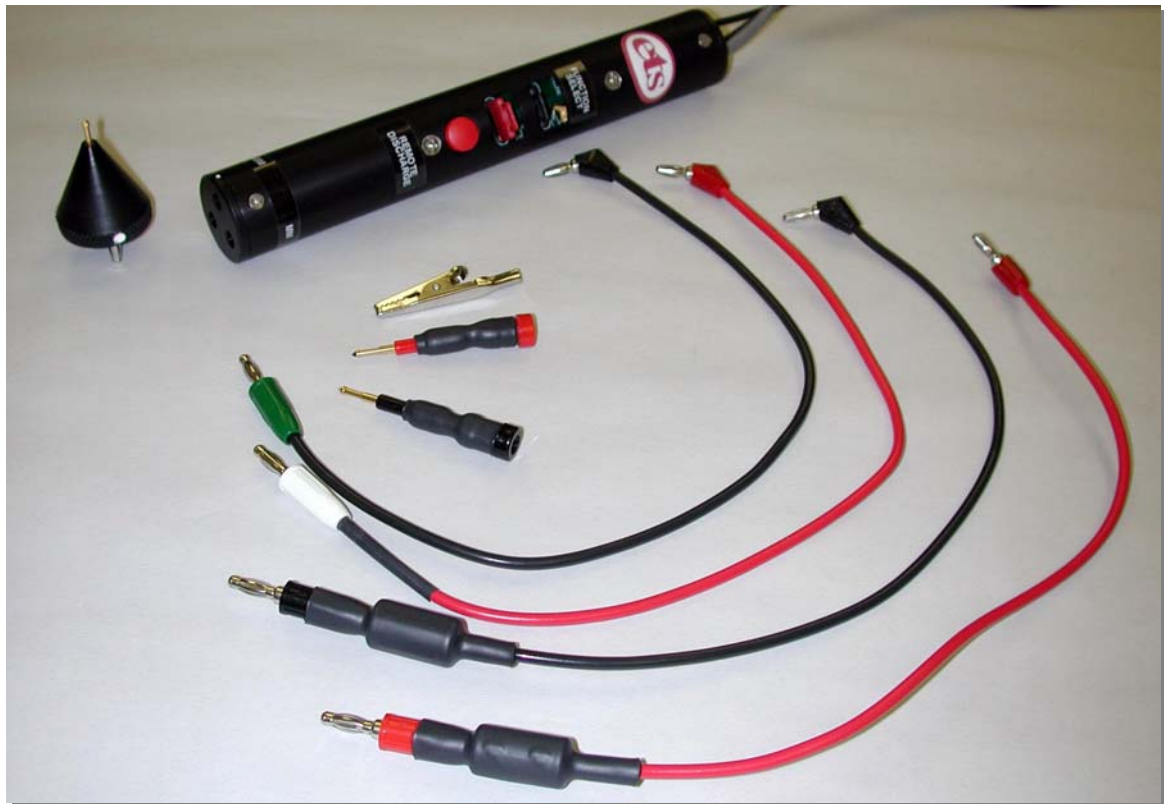

Figure 2.0-1: Model 9902 plus accessories
The Model 9902 is housed in an aluminum tube measuring 8.0" (203mm) long by 1.25" (32) diameter. It includes a removable discharge head with a replaceable spring-loaded pointed discharge tip and a set of 12" long discharge cables that are terminated with standard 0.161" (4mm) banana plugs plus a pair of spring-loaded adapters with pointed spring-loaded discharge tips for attachment to a pick and place or remote test set up. Red and Black 0.5" (6mm) jumpers are provided to select the HBM, MM and CDM functions. A spare set is also included. The Remote Probe is connected to the Model 910 via an 8.5' (2.5m) cable assembly that consists of high voltage, ground and control signal leads. The supplied assembly is shown in Figure 2.0-1.